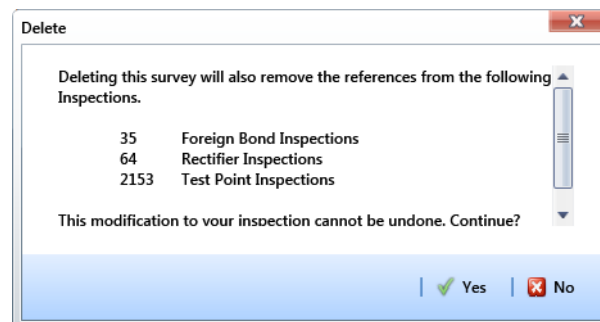

Figure 5-2. Example of Survey Folder Delete Message
Deleting a survey folder typically occurs when you want to clean up data that is no longer needed or when a survey folder has been created accidentally. A message displays listing all facility records assigned to the survey folder allowing you to either cancel the operation or delete the survey folder (Figure 5-2).
- 3 When the *Delete* message displays, click  **Yes** to delete the survey folder or  **No** to cancel the operation (Figure 5-2).